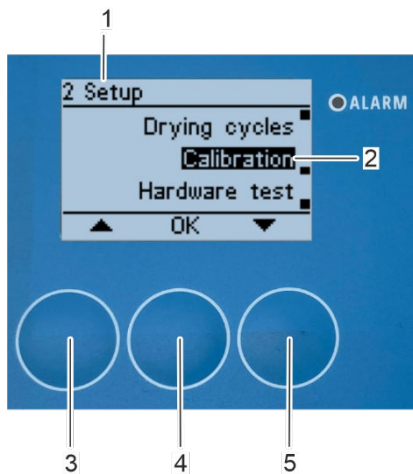

Fig. 138: Open submenu „Calibration“
⇒ The "2 Setup" submenu appears on the display again (Fig. 138/1).
1. To perform a renewed calibration, select the “*Calibration*” submenu (Fig. 138/2) with the arrow keys *[up]* (Fig. 138/3) and *[down]* (Fig. 138/5) in “2 Setup” submenu (Fig. 138/1).
2. Confirm the selection with *[OK]* (Fig. 138/4).